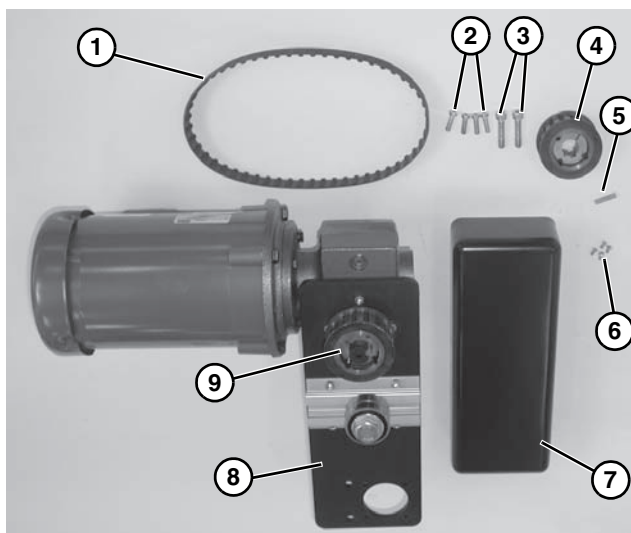

Figure 2
1. Typical components (**Figure 2**)